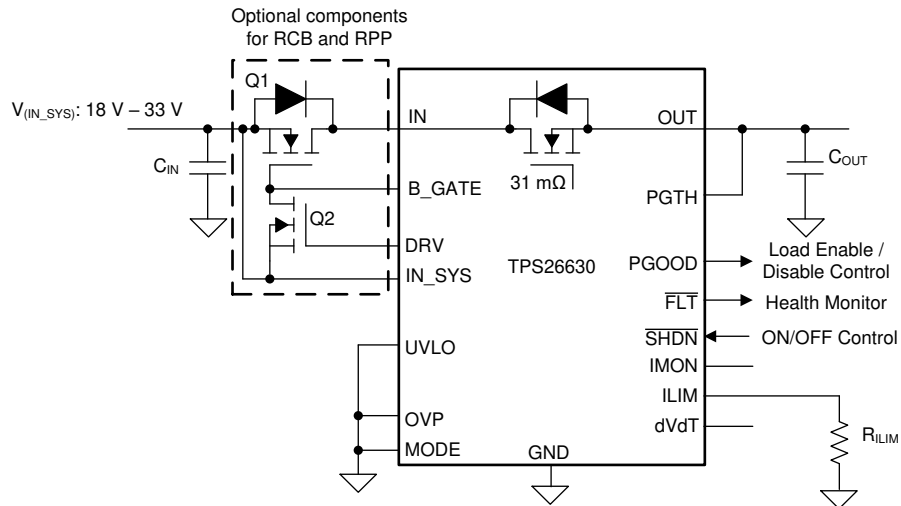

Figure 10-11. TPS26630 Configured for a Simple 24-V Supply Path Protection
With the TPS2663x devices, a simple 24-V power supply path protection can be realized using a minimum of five external components as shown in the schematic diagram in Figure 10-11. The external components required are: a N-Channel Power FET Q₁, a N-Channel signal FET Q₂ and a R_(ILIM) resistor to program the current limit, C_(IN) and C_(OUT) capacitors.